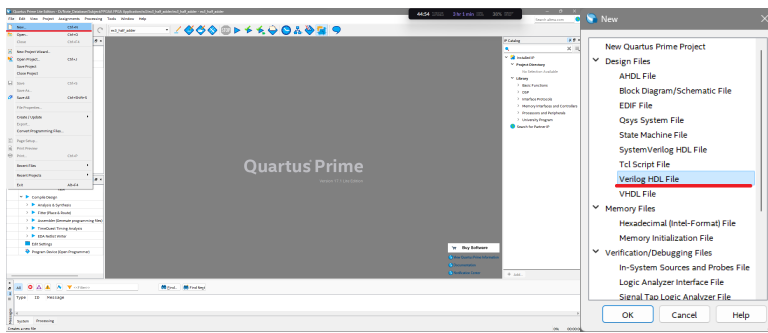

Figure 4: Select new file
1. Click "New" in the "File" menu. (Figure 4)